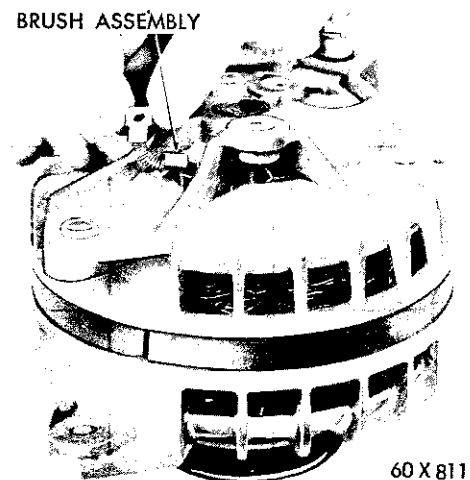

Fig. 31—Removing or Installing Insulated Brush
(1) Remove the retaining screw, lockwasher, nylon washer, and field terminal, and carefully lift the plastic holder containing the spring and brush assembly from the end housing (Fig. 31).
(2) The ground brush is positioned horizontally